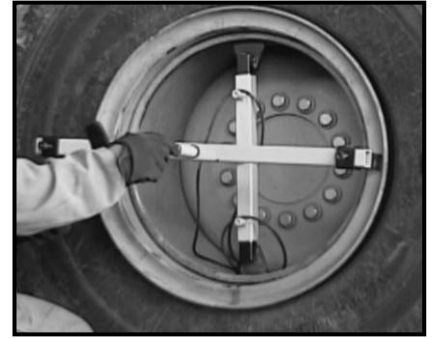

FIGURE 4
4. Depending on amount of travel left on the threaded center rod choose a round spacer or spacers and slide onto the threaded center rod as seen in **Figure 4**.